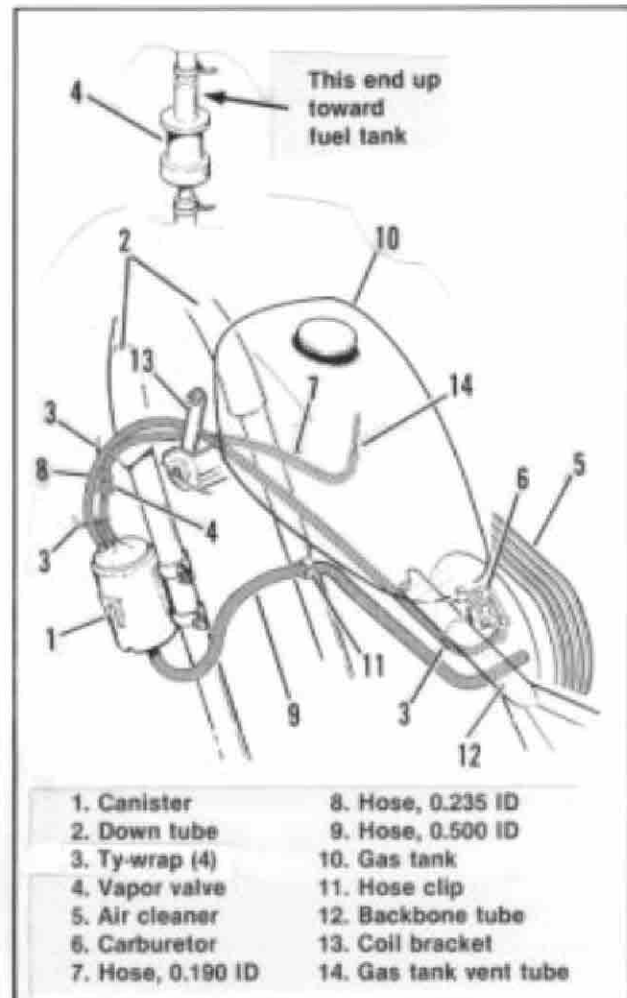
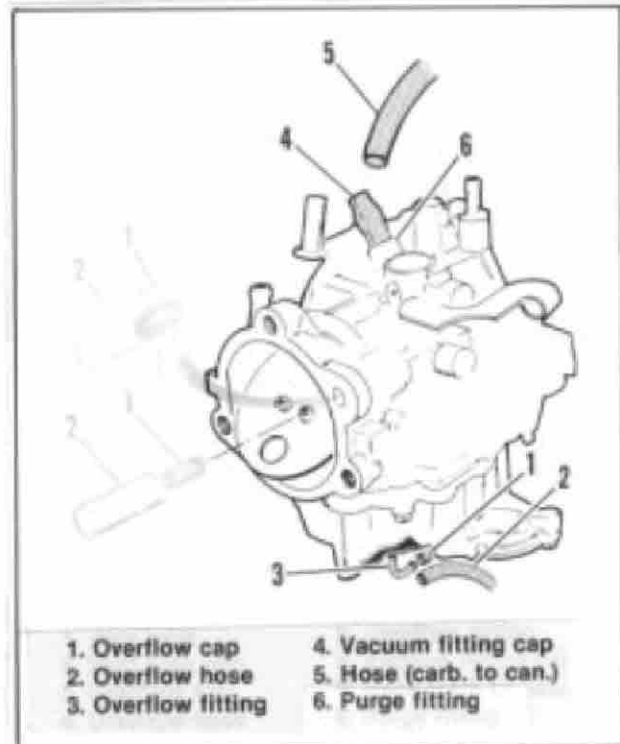

Figure 1. Evap. System
Figure 5. Carburetor Modification
Description (See Figure 1)
1. See Figure 5. Remove carburetor overflow hose (2) and discard. Place overflow cap (1) on fitting (3).
- See Figure 1. Take large diameter (0.500 in. ID) preformed hose (9) and push end with large bend radius on fitting at bottom of canister.
- Route hose across rear of frame downtubes. Push hose clip (11) around right downtube and attach hose to clip (11).
- See Figure 1. Take hose (8) and push one end over fitting at top of canister labeled 'carb'. Lead hose up through coil bracket (13) and under backbone tube (12). Secure hose to backbone with two ty-wraps (3) connected end to end. Bring hose up to carburetor purge fitting. Cut hose to length. Do not kink hose. See Figure 5. Push free end of hose over carburetor purge fitting.
- See Figure 1. Take smallest diameter hose (7) and cut off a 4 in. length.
- Route hose upward along hose (8) and insert vapor valve (4) in hose. Check vapor valve insert in Figure 1 for correct valve position.
- Position vapor valve in an upright position and secure to hose (8) with ty-wraps (3) placed above and below the vapor valve.